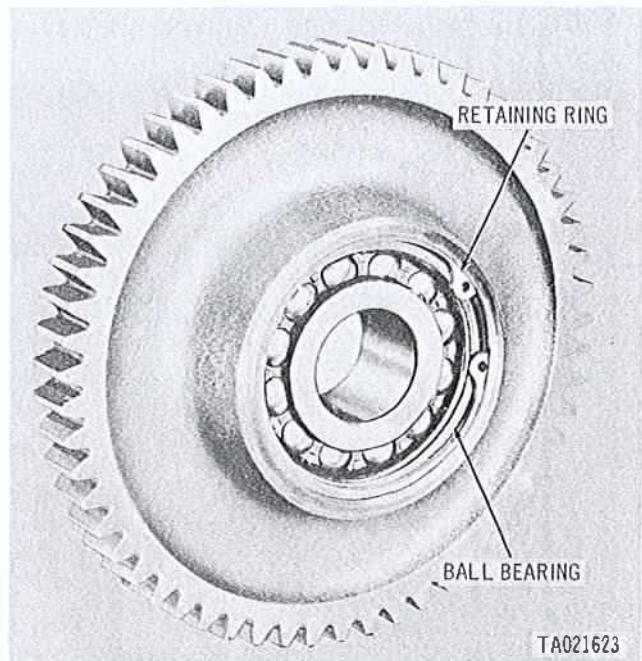

Figure 3-166. Removing generator idler gear retaining ring and ball bearing.
a. **Disassembly.** Remove retaining ring (fig. 3-166), securing ball bearing in generator idler gear and press ball bearing from gear. Disassemble the starter idler gear in a similar manner.
(1) Inspect starter idler gear and bearing against limits specified in repair standards (table 3-7). Replace parts not meeting these requirements.
(2) Inspect generator idler gear and bearing against limits specified in repair standards (table
Secure bearing in gear with retaining ring (fig. 3-166). Install the starter idler gear bearing in a similar manner.